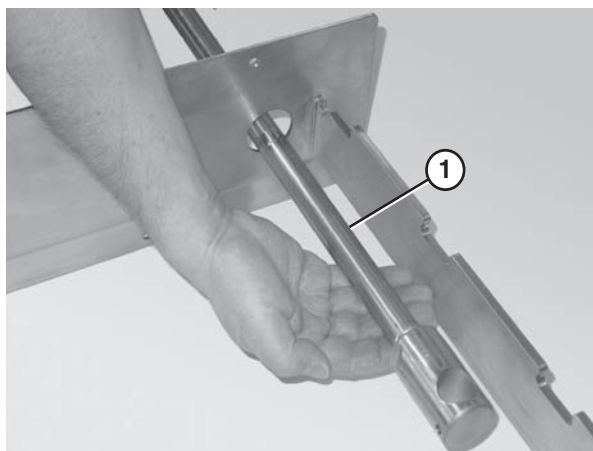

Figure 10
1. Slide the tip up shaft (**Figure 10, item 1**) through the designated slots in the frame.